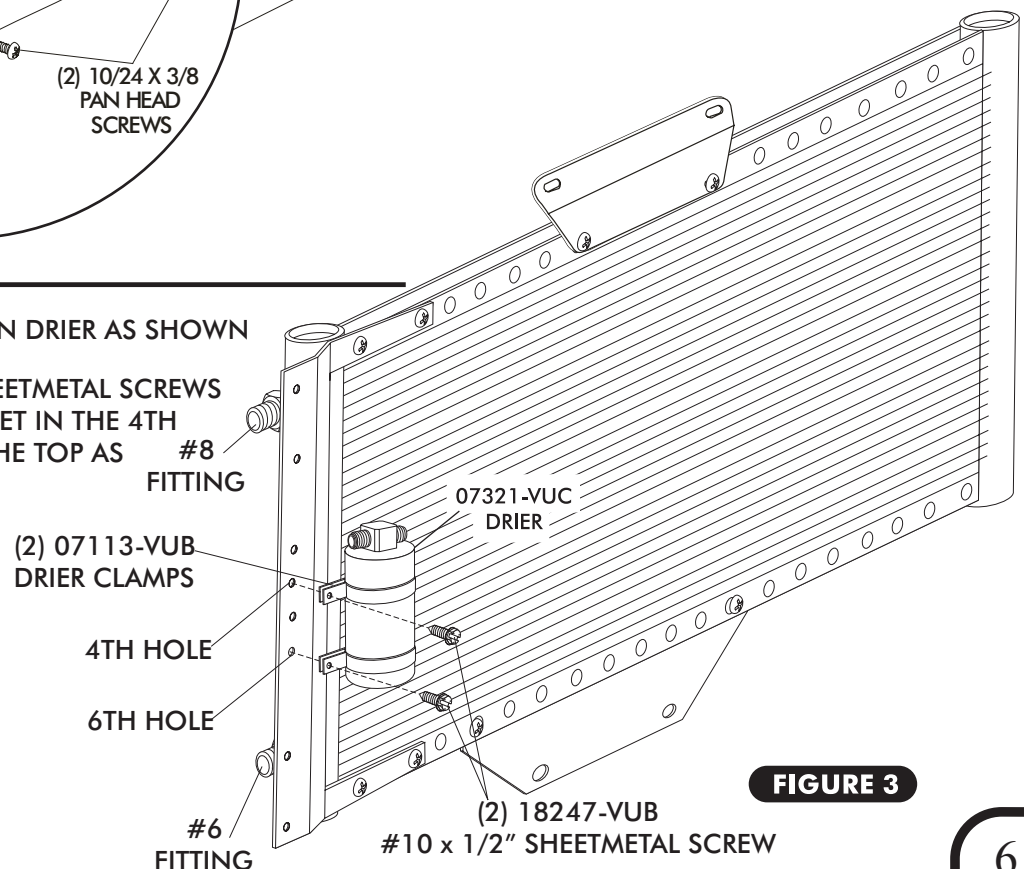

FIGURE 3
- INSTALL DRIER CLAMPS ON DRIER AS SHOWN IN FIGURE 3.
- USING (2) #10 x 1/2" SHEETMETAL SCREWS INSTALL DRIER ON BRACKET IN THE 4TH AND 6TH HOLES FROM THE TOP AS SHOWN IN FIGURE 3.